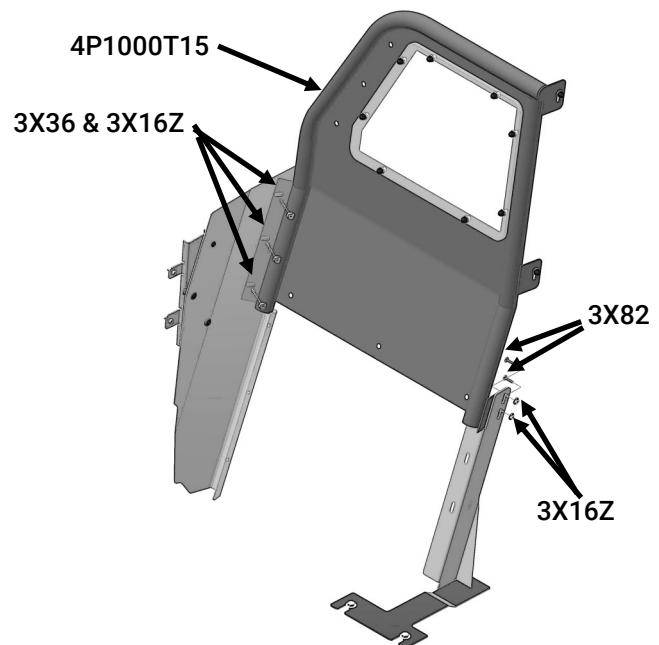

Fig. 4
- B. Place the partition [4P1000T15] into vehicle and fasten to mounting plate using [3X36] screws and [3X16Z] whiz nuts. (Figure 4) NOTE: Partition window portion will be at an angle of approximately 10 degrees.